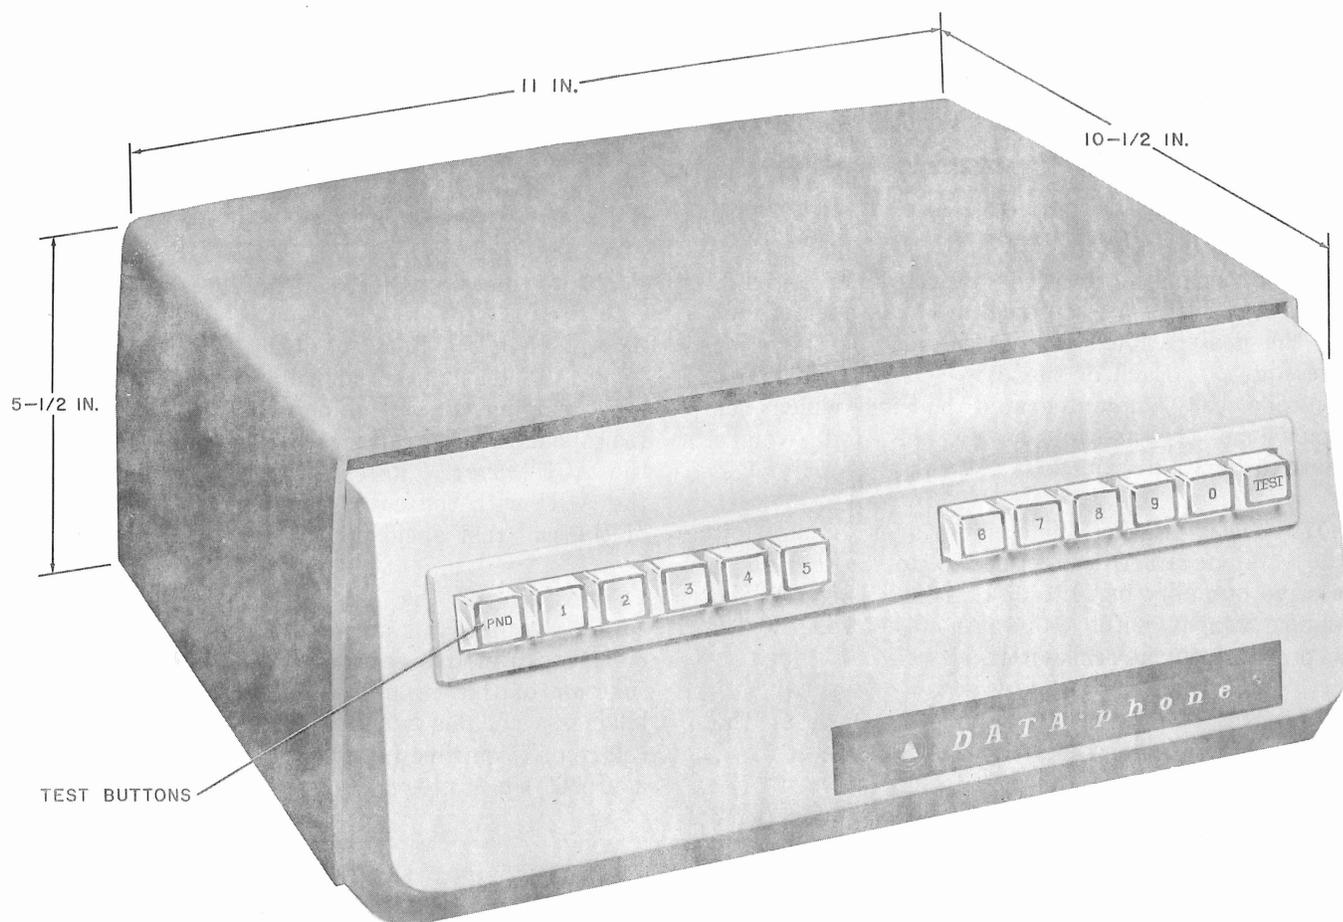
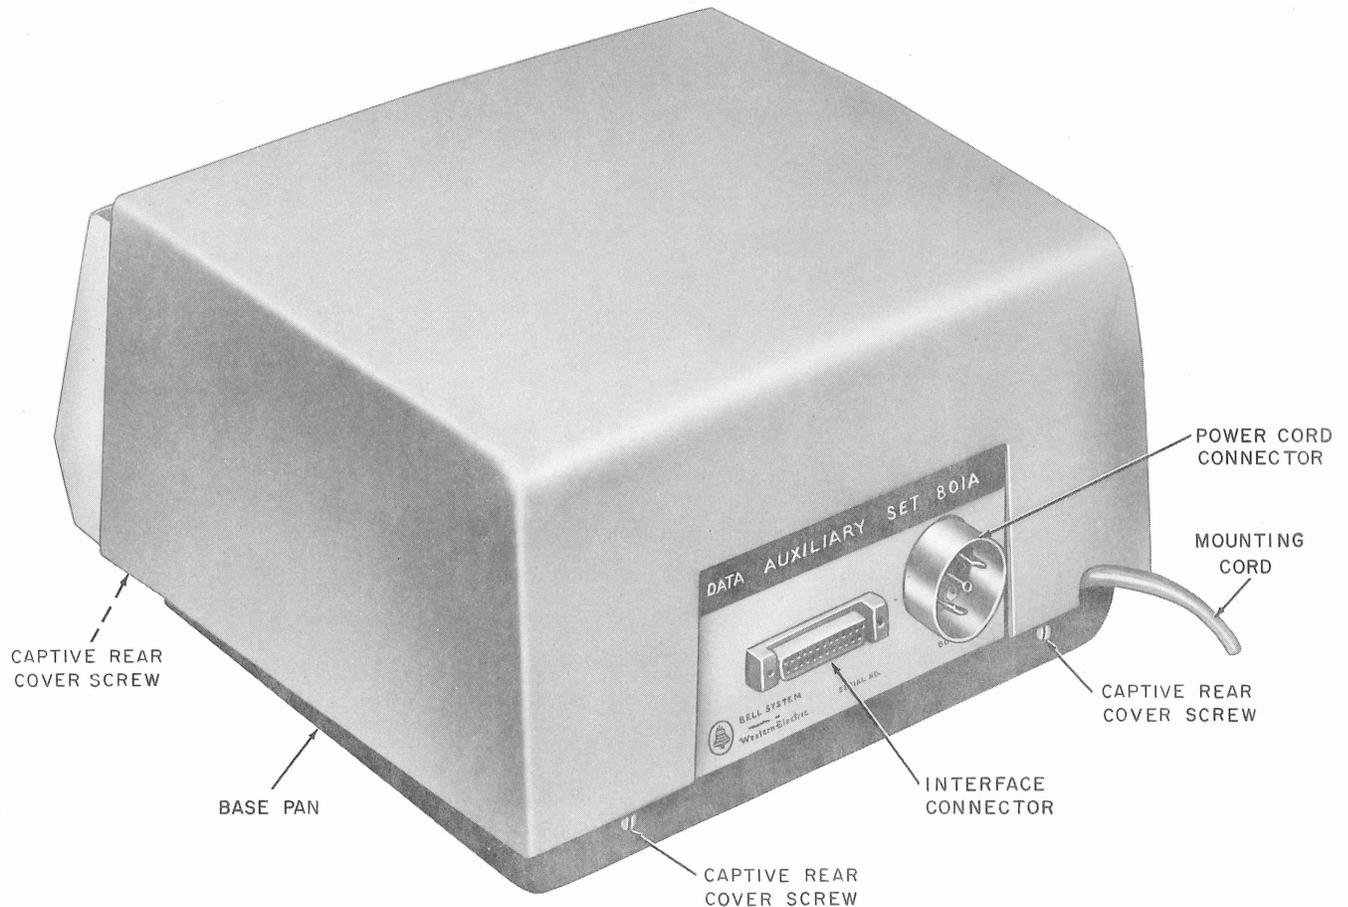

Fig. 1—Data Auxiliary Set 801A-Type, Front View
Fig. 2—Data Auxiliary Set 801A-Type, Rear View
as ACU's (automatic calling units), and are shown by Fig. 1.
2.01 Externally, the ACU's, 801A1, 801A2, 801A3, and 801A4 are identical in appearance except for the designation strip on the rear of the ACU (see Fig. 2). Each of the ACU's is contained in a two-tone gray, nonintegrated housing which has dimensions as shown in Fig. 1 and weighs approximately 16 pounds.
2.04 The cord required for the connection of the business machine to the ACU interface is supplied by the customer. The cord must not exceed 50 feet in length and must be equipped with a plug that mates with a KS-19087 L6 connector which is located in the rear of Data Auxiliary Set (Fig. 2).
2.05 The ACU's provide a means of testing that is independent of the business machine control signals. The test buttons shown in Fig. 1 are used to simulate the control signals that are normally furnished by the business machine. For information on the testing of the Data Auxiliary Sets by using the test buttons refer to the section entitled Data Auxiliary Sets 801A1, 801A2, 801A3, and 801A4 For Automatic Calling Test Procedures (598-010-500).